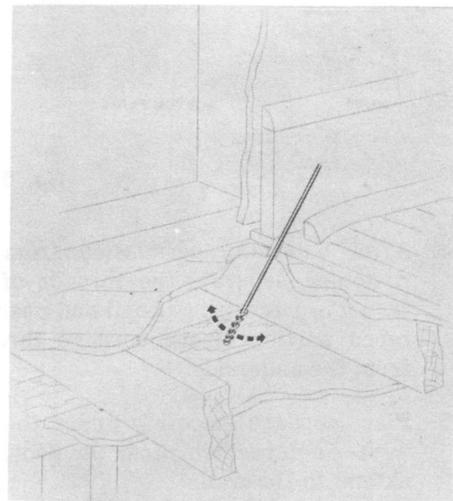

Fig. 4 - Locating Plates
- When drilling plates, locate them by feeling with the bit to determine proper position for drilling as shown in Fig. 4.